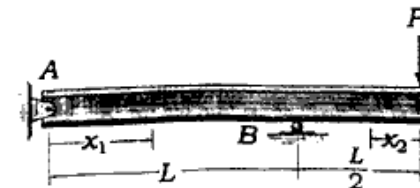

Fig. 4
6. Derive the equations of the elastic curve for the beam using the  $x_1$  and  $x_2$  coordinates.  $EI$  is constant shown in Fig. 4. 14